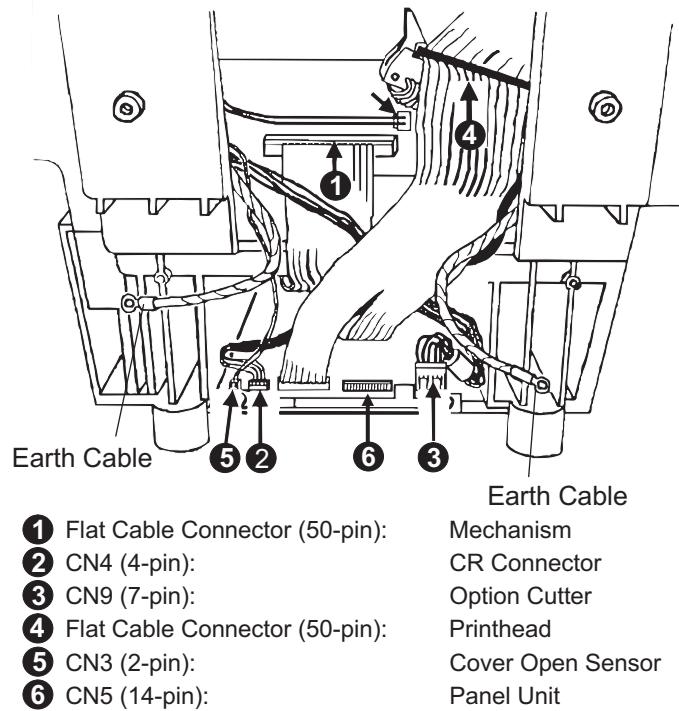

Figure 3-24. Connector and Earth Cable Removal (left side)
Step 4: Disconnect the 6 connectors, (1) through (6) as shown in Figure 3-24.